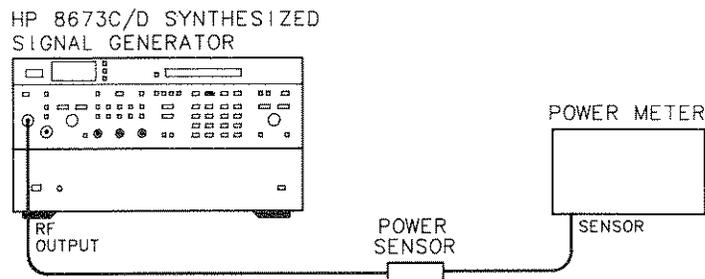

Figure 4-2. Output Level and Flatness Test Setup
1. Connect the equipment as shown in Figure 4-2.